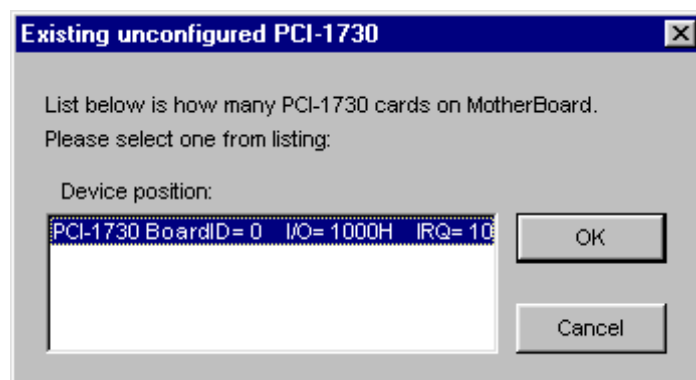
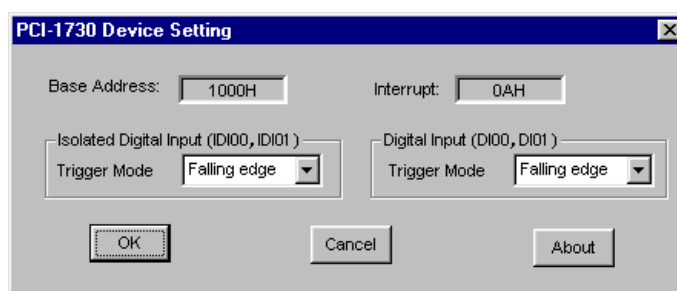

Figure 2.5 "Device Found" Dialog Box
Figure 2.6 Device Setting Dialog Box
3. Scroll down the Supported of Devices box to find the device that you wish to install, then click the Add... button to evoke the Existing unconfigured PCI-1730U dialog box such as one shown in Fig. 2-5. The Existing unconfigured PCI-1730U dialog box lists all the installed devices on your system. Select the device you want to configure from the list box and press the OK button. After you have clicked OK, you will see a PCI-1730U Device Setting dialog box such as the one in Fig. 2-6.
- On the PCI-1730U Device Setting dialog box (Fig. 2-6), you can configure the IDI00, IDI01 and DI00, DI01 Interrupt trigger mode either as Rising Edge or Falling Edge, and Enable or Disable the IDI00, IDI01 and DI00, DI01.